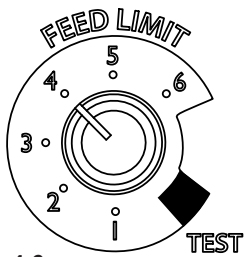
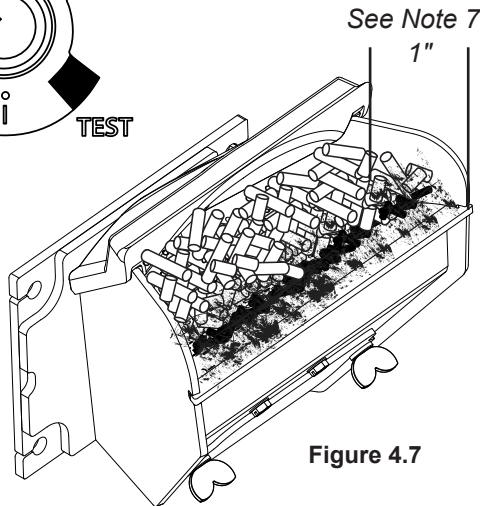

Figure 4.6
Figure 4.7
4. *Adjust Feed Limit. If this is your first fire or you are trying different pellets, set the feed limit to #4, Figure 4.6 This is a conservative number and will probably need to be increased. After you know a Feed Limit setting that works well, use that setting. Remember, if your feed rate is too high you may waste fuel.*
7. *Setting the feed limit # for maximum burn: With the unit burning in "AUTO", turn to "Constant Burn" and put the fan on "H". Set the Temperature Dial to #7. Allow the unit to burn for about 30 minutes and check ash on front of burn pot. Figure 4.7. If the ash line is larger than 1", turn the feed limit from #4 to #5. Allow another 30 minutes of burn time and check again. If, at #6 setting, a 1" or less ash bed is not obtainable, it is not a problem. The 1" ash bed is only at maximum burn rate and during normal operation, the ash bed will be larger.*
High output is determined by the Feed Limit setting. This setting, generally on #4, can be increased if higher burn rates are necessary (Figure 4.6). The unit's maximum burn rate should not create less than 1" of ash on the burn pot front edge (Figure 4.7). Overfeeding is not a safety concern, but fuel may be wasted if unburned pellets fall into the ash pan.
This allows for automatic ignition upon start-up only. The unit can then be set at any desired setting. The heat output and fuel consumption will remain constant regardless of room temperature. The unit's maximum feed rate should not create less than 1" of ash on the burn pot front edge. Figure 4.7.